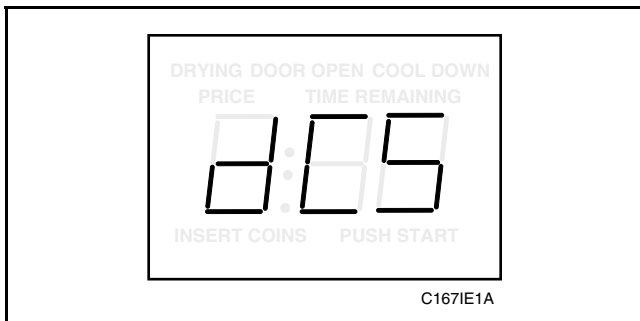

Figure 71
- Press the LOW TEMP (+) pad or the NO HEAT (-) pad to scroll through the programmable options until “dCS” appears in the VFD, *Figure 71*.